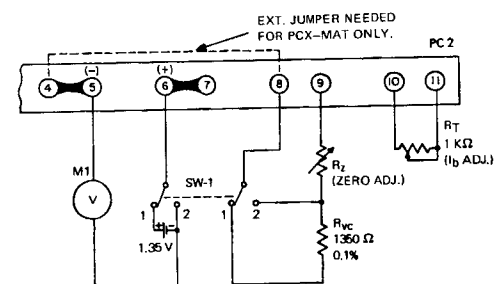

FIG. 3-5 PROGRAMMING RATIO CALIBRATION,
- Connect calibration set-up as shown in FIG. 3-5